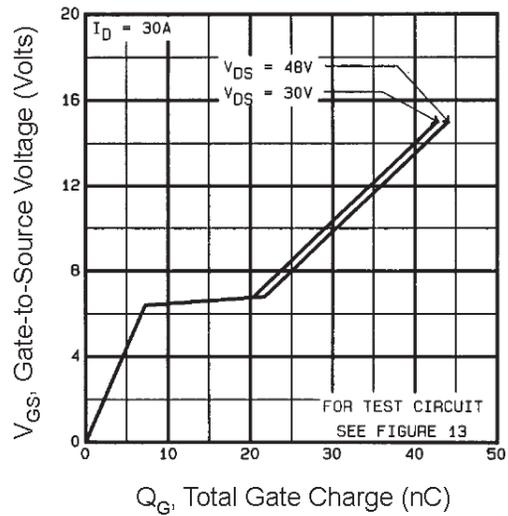

Fig. 6 Typical Gate Charge vs. Gate-to-Source Voltage
| Q_{gd} | — | — | 22 | — | $V_{GS} = 10V$, See Fig. 6 and 13 ④ |